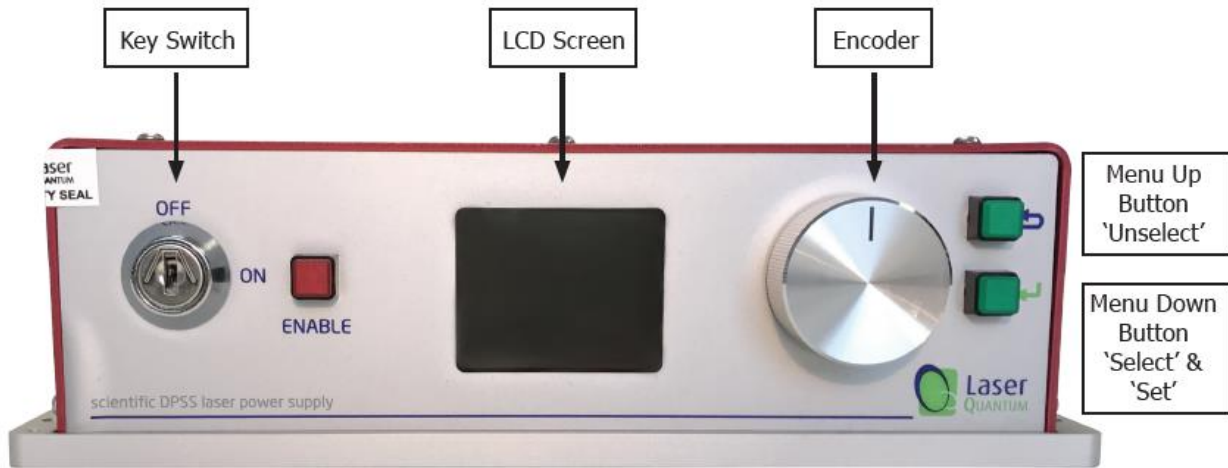

Figure 4-1
- 6 Using the Encoder and Menu Up/Down buttons (see Fig 4.1) the operation current or power can be adjusted (see Front Panel Controls section below).